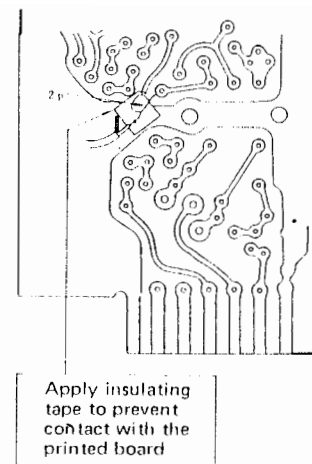

Figure 9
- (1) Remove PB-1183 from its socket.
- (2) Solder the 5 PF capacitor and coax cable as illustrated in Figure 9.
- (3) Reinsert PB-1183 to its socket.
- (4) Disconnect the coax cable from the IF OUT connector on the FT-101, and solder the other end of the coax cable installed in step (2) to this jack. Solder the outer conductor of the coax cable to ground.
- (5) Solder a 100K ohm 1/4 watt resistor between the inner and outer conductors of the cable at the connector.
- (6) Peak T109 after the above modification.